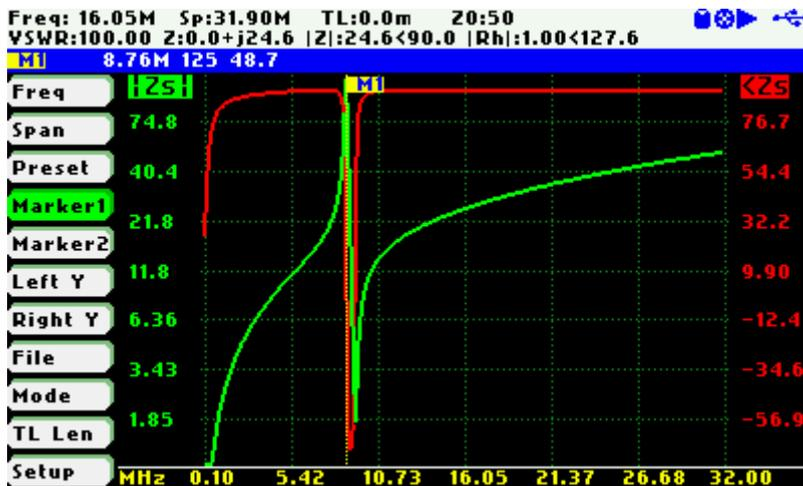

Figure 2
- Step 8. Move the marker to the point where |Z| peaks (Figure 2)